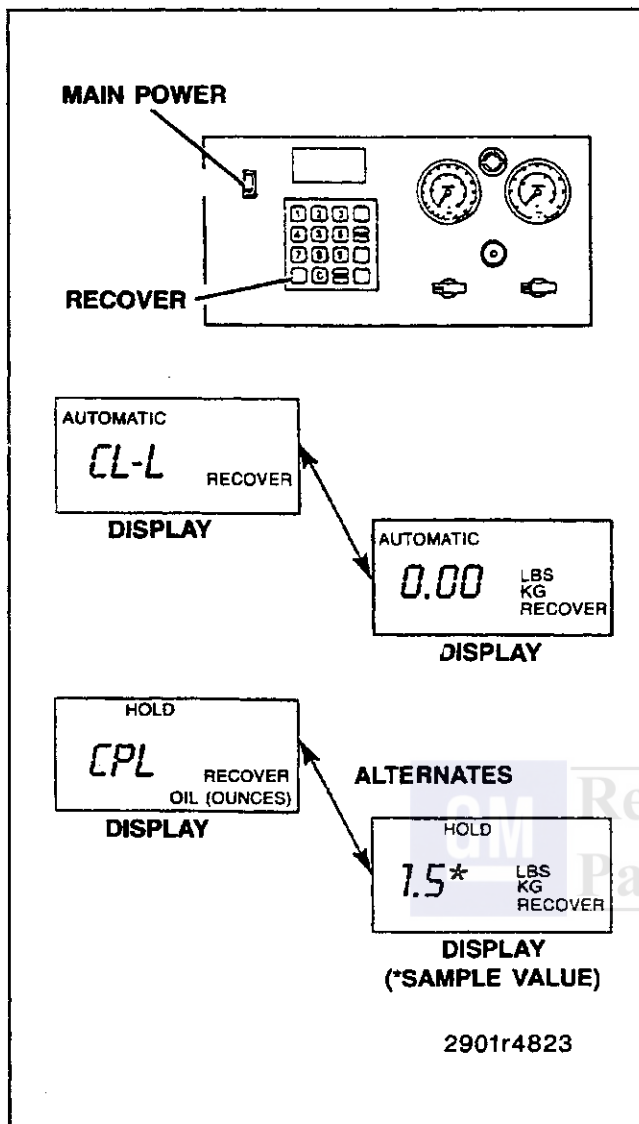

Figure 16—Refrigerant Recovery
9. Press "RECOVER" on the key pad. Before recovery begins, the unit will clear itself of refrigerant. "CL-L" will appear on the display. The clearing process takes from 30 seconds to 3 minutes to complete (figure 16).